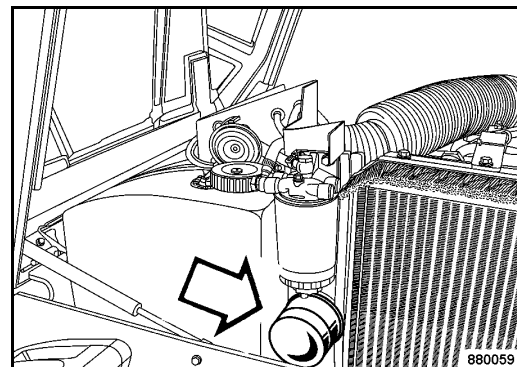

Fig. 135
- Unscrew the filter cartridge (Fig. 135) using an appropriate filter wrench.